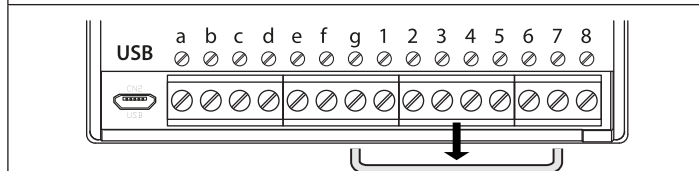

Fig. 62
4. After the 3rd beep remove the short, as shown in **Fig.62**.